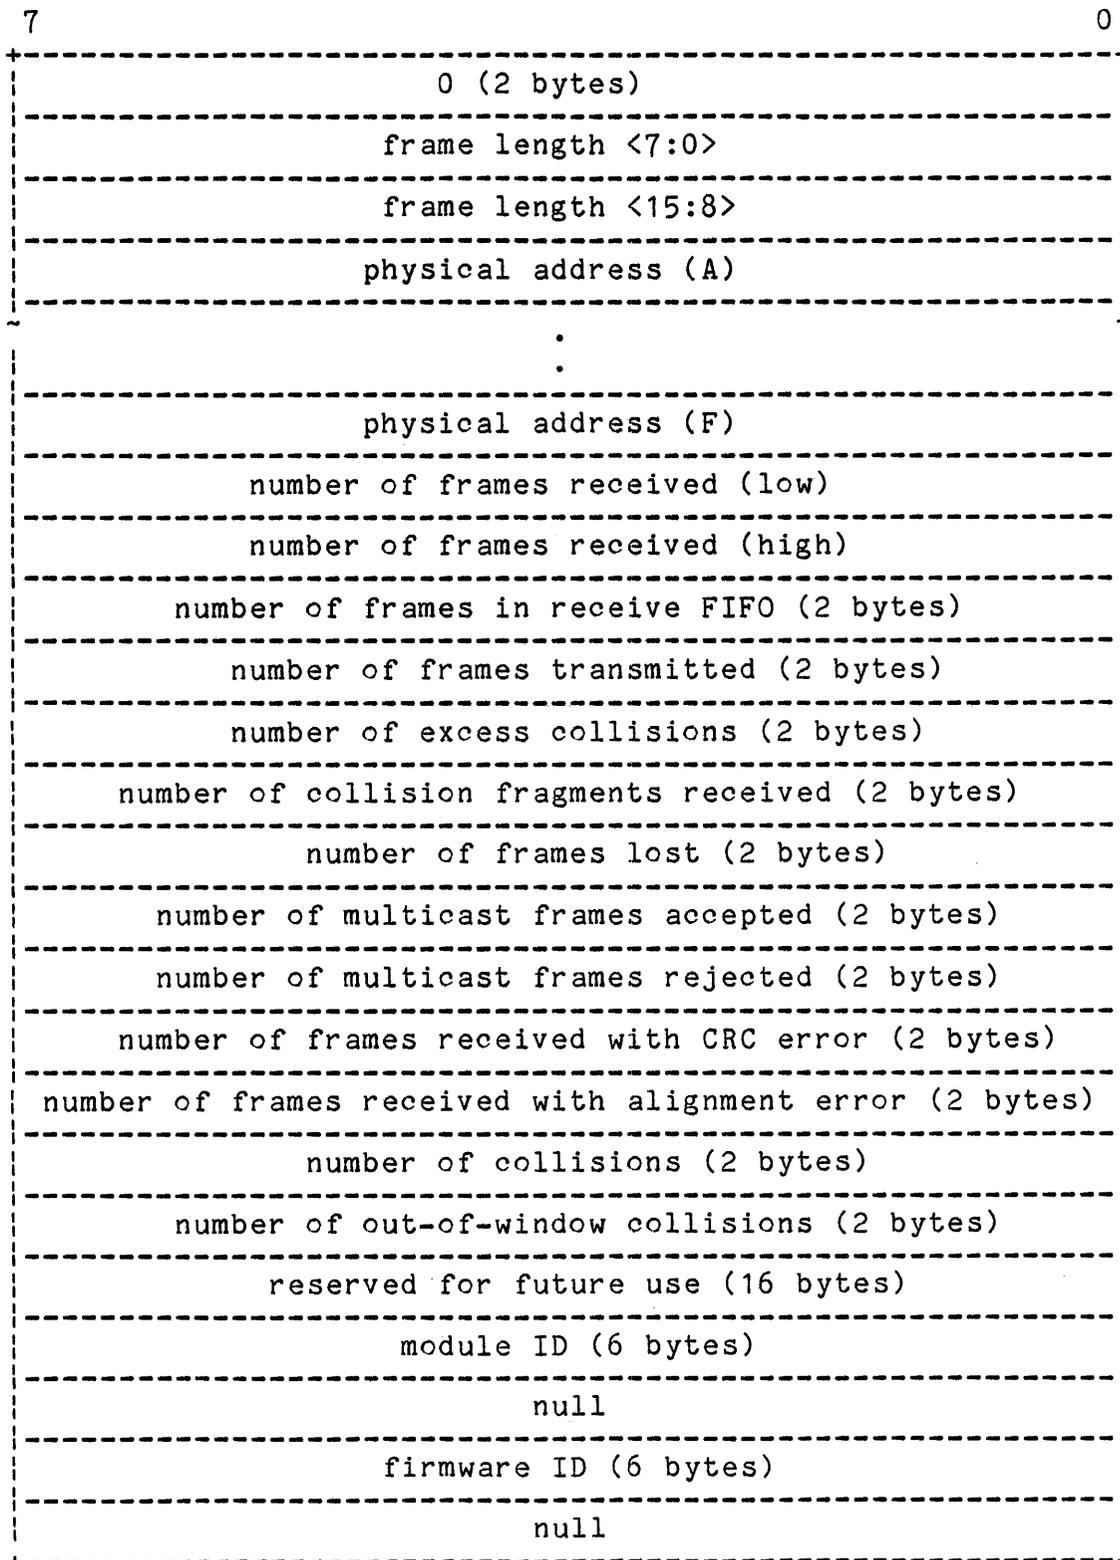

Figure 3-4. Reported Statistics
**Data Format:** Figure 3-4 shows the format of the status block returned by this command.
See Figure 3-4 on the next page.